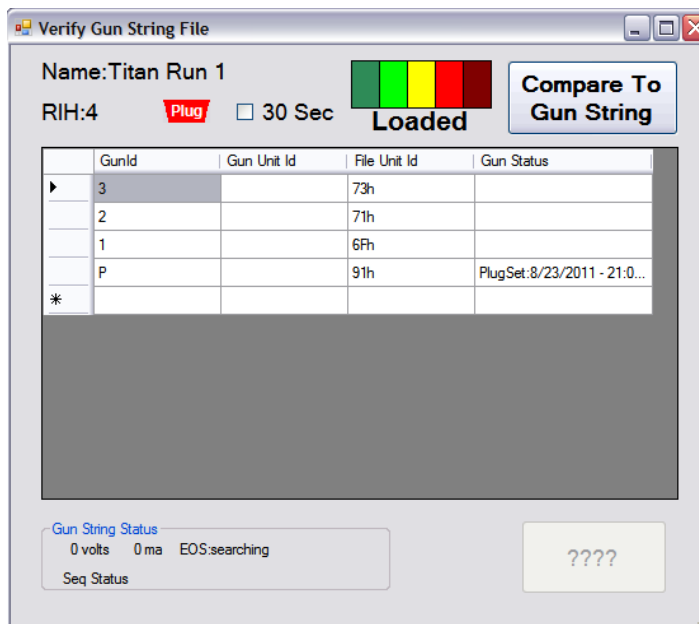

Figure 31
2. From the Perf Unit Setup screen, select the **Verify Gun String** button. The results of this action are seen in Figure 31.